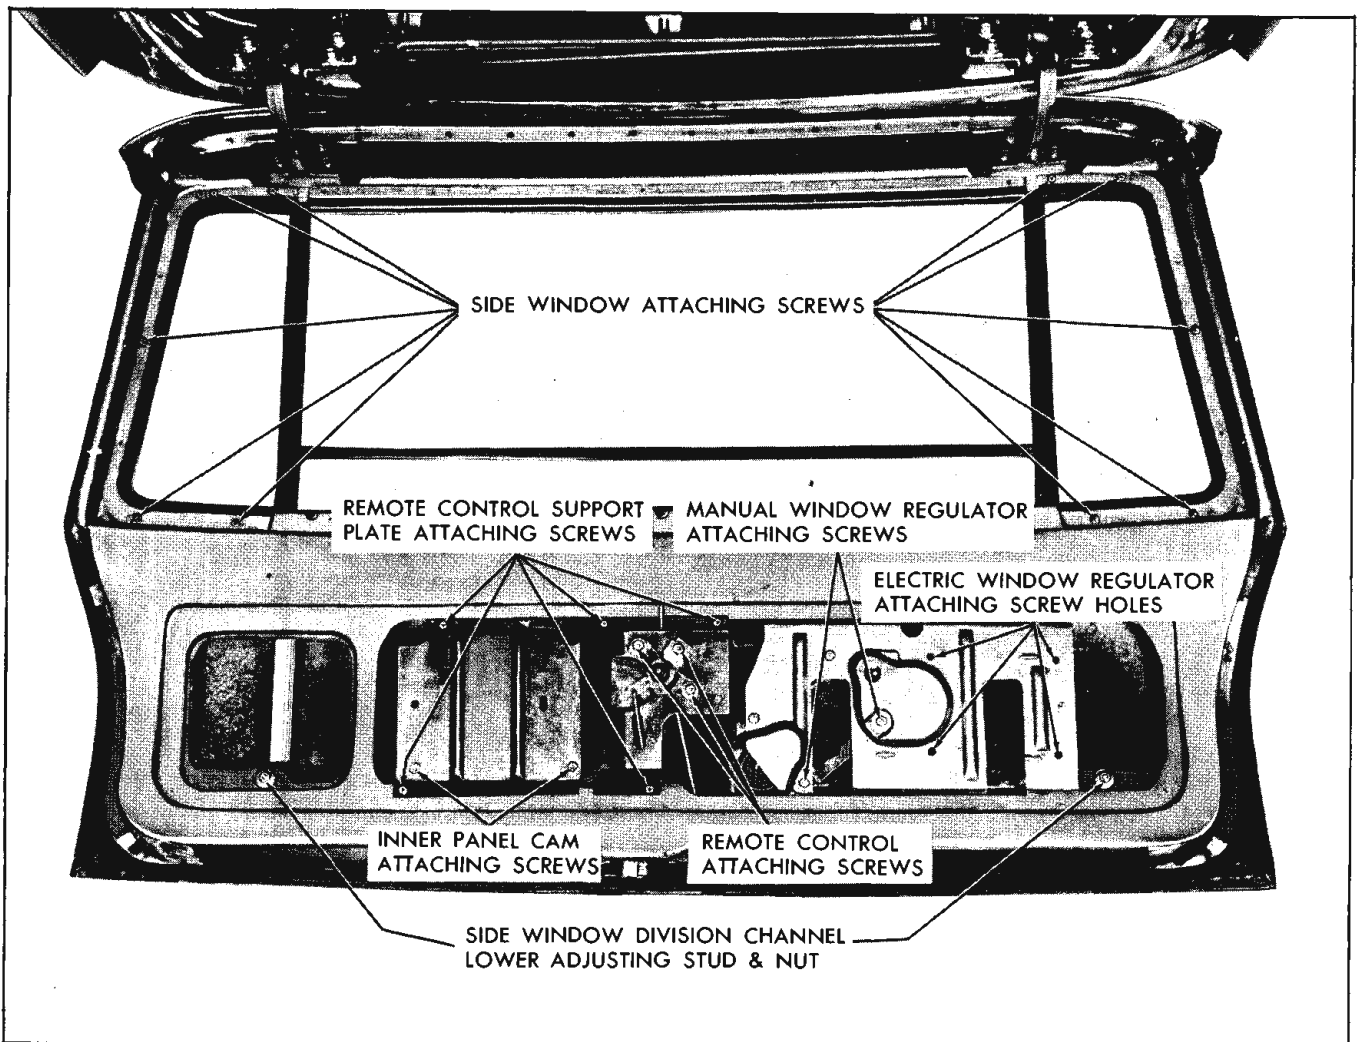

Fig. 15-18 Back Door Hardware
2. Remove remote control attaching screws (Fig. 15-18). Disengage locking rods from remote control and remove remote control from back door.
3. Remove remote control support plate attaching screws (Fig. 15-18). Move support plate towards right side of door to disengage inner panel cam from regulator arm roller and remove support plate.
2. Remove remote control attaching screws (Fig. 15-18). Disconnect remote control from connecting rod and remove remote control.
2. Remove side window frame attaching screws; then, remove division channel lower adjusting stud (Fig. 15-18).
2. Remove back door lock inside handle remote control attaching screws (Fig. 15-18). Disconnect remote control from connecting rod and remove remote control.
3. Remove screws securing inside handle remote control support plate (Fig. 15-18); then, move support plate towards right side of door to disengage inner panel cam from regulator arm roller and remove support plate.
4. Remove regulator attaching screws (Fig. 15-18) and remove regulator.